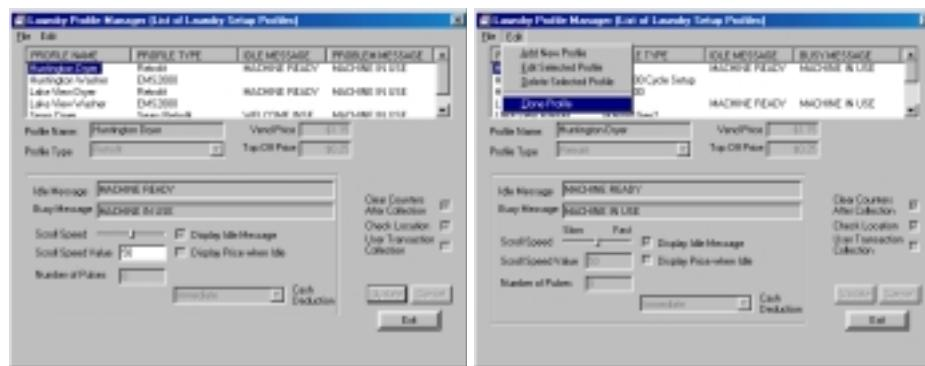

Figure 8.12 Cloning a Laundry Machine
2. Click the profile to clone in the Profile List Window (Figure 8.12).
3. Select Clone Profile from the Edit drop-down menu (Figure 8.12).